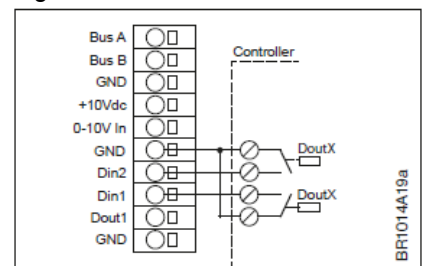

Fig. 3-14.4
- Electrical connection, see fig. 3-14.4.